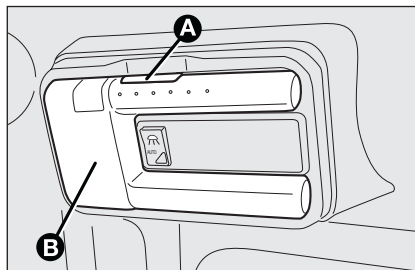

fig. 44
- ☐ press button **A-fig. 44** and remove the removable ceiling light **B**;